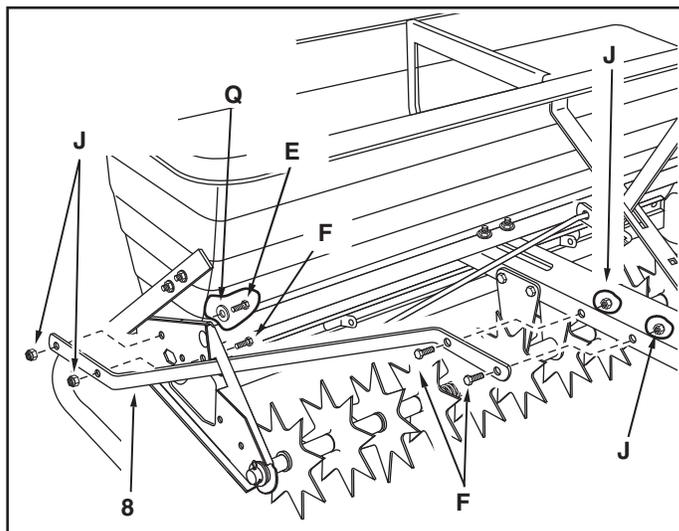

FIGURE 23
34. Insert a tongue brace (8) through the slot in the end plate. Fasten the front hole of the tongue brace to the end plate using a 1/4" x 5/8" hex bolt (F) and 1/4" nylock nut (J). For the rear hole use a 1/4" x 3/4" hex bolt (E), 1/4" flat washer (Q), and 1/4" nylock nut (J), with the bolt and washer assembled from inside the hopper. **Do not tighten yet.** See figure 23.
35. Fasten the other end of the tongue brace (8) to the side of the tongue using two 1/4" x 5/8" hex bolts (F) and 1/4" nylock nuts (J). **Do not tighten yet.** See figure 23.